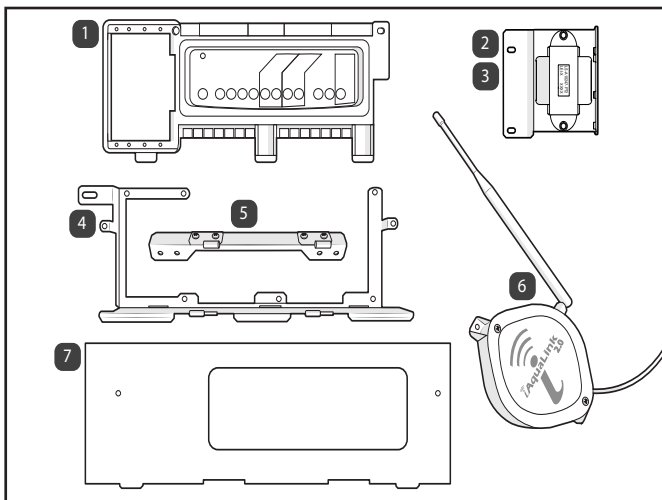

Figure 1. Kit Contents
pump suction line. The centers of the main drains (suction outlets) on any one (1) suction line must be at least three (3) feet apart, center to center. See Figure 1.
The system **must** be built to include at least two (2) suction outlets (drains) connected to the pump whenever the pump is running. However, if two (2) main drains run into a single suction line, the single suction line may be equipped with a valve that will shut off both main drains from the pump. The system shall be constructed such that it shall not allow for separate or independent shutoff or isolation of each drain. See Figure 1.